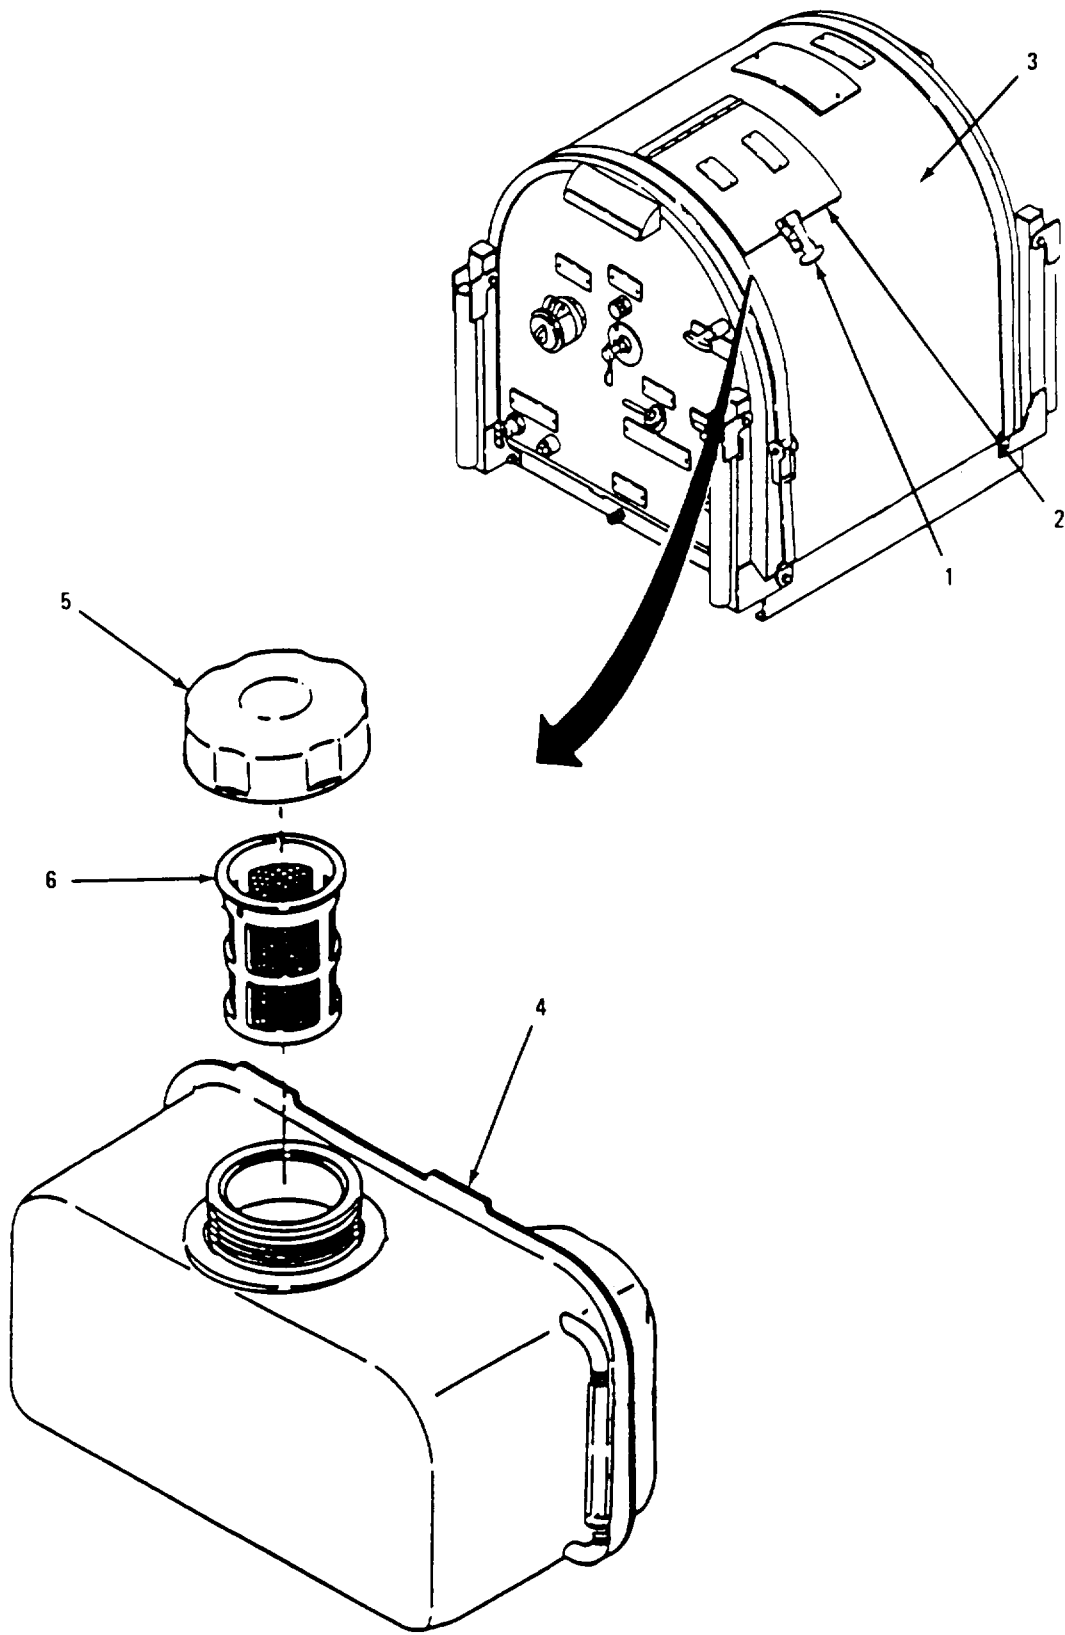

Figure 2-5. Refueling Pump Unit
- (8) Make sure that all connections are tight; perform operator PMCS.
- (9) A male quick disconnect Reducer (2"x 1 1/2") is provided when the fuel source has a 2" connector.
- c. filling the Unit Fuel Tank. Before starting the pump unit, the fuel tank must be filled with fuel. To fill the fuel tank, perform the following procedures. (Refer to Figure 2-5.)
- (1) Disengage the latch (1) on the access door (2) of the enclosure assembly (3) and open access door (2).
- (2) Check fuel level in fuel tank (4). To insure that fuel tank is filled with fuel. If fuel tank is not full, perform steps (3) through (6) to fill the tank.